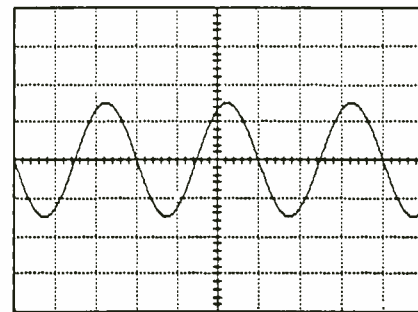

Fig. 10. Oscilloscope waveform when vertical sensitivity is 0.2 volt/div. and time base is 500 microseconds.
- (10) SPO256-AL2 Speech Synthesizer. MOS/LSI device with built-in program easily interfaces with most computers. Requires 3.12 MHz crystal (special order via "hotline" above). 28-pin DIP. #276-1784 ..... 12.95
- (11) CTS256-AL2 Text-to-Speech IC. Preprogrammed 8-bit processor translates ASCII into control data for figure 10. Requires 10 MHz crystal (special order). 40-pin DIP. #276-1786 ..... 16.95
- (12) SSI 202 Touch-Tone Decoder IC. Easy-to-use DTMF receiver is just right for remote-control applications. Requires a minimum of support parts and is easily interfaced with most microprocessors. #276-1303 ..... 12.95
As an example, one can determine zero-to-peak voltage, peak-to-peak voltage, period and frequency of the waveform shown in Fig. 10 with a few simple calculations, as follows: